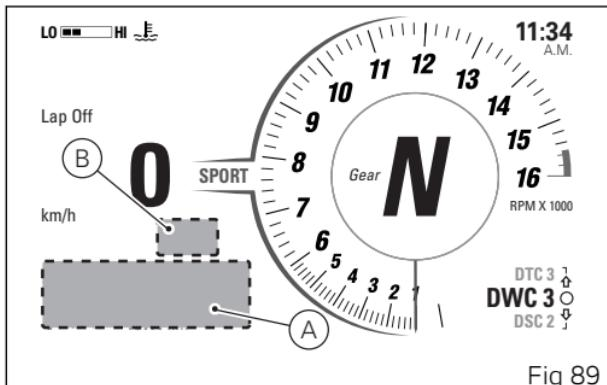

Fig 89
As the set service thresholds are almost reached, every time the motorcycle is switched on, the instrument panel activates the relevant grey indications for 5 seconds, in large mode (A, Fig 89) in the Track and Road Info Modes, showing the distance or days remaining: for "Oil Service" (D) and "Desmo Service" (E) it activates when 1000 km (621 miles) remain, for "Annual Service" (F) when 30 days remain.
Once the service threshold has been reached and each time the instrument panel is turned on, the corresponding amber warning is activated. In Track and Road Info Modes for the first 5 seconds it is displayed in large mode (A, Fig 89), then it is displayed in small mode (B, Fig 89).